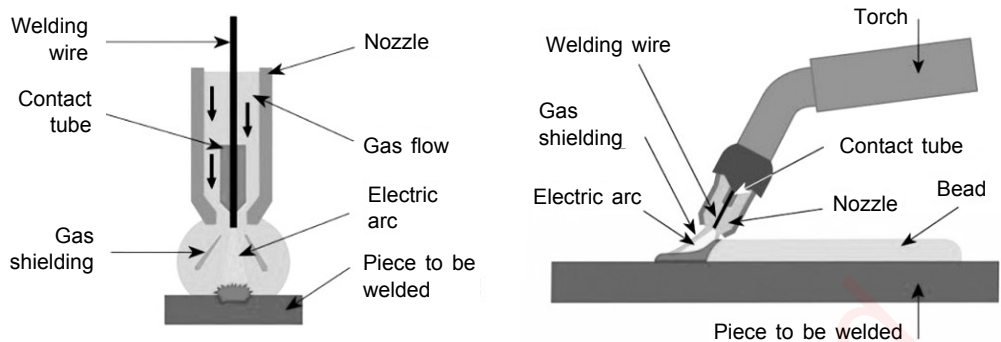

Fig.10.1: Principle of MIG Welding Process
- MIG works on basic principle of heat generation due to electric arc as shown in Fig.10.1.